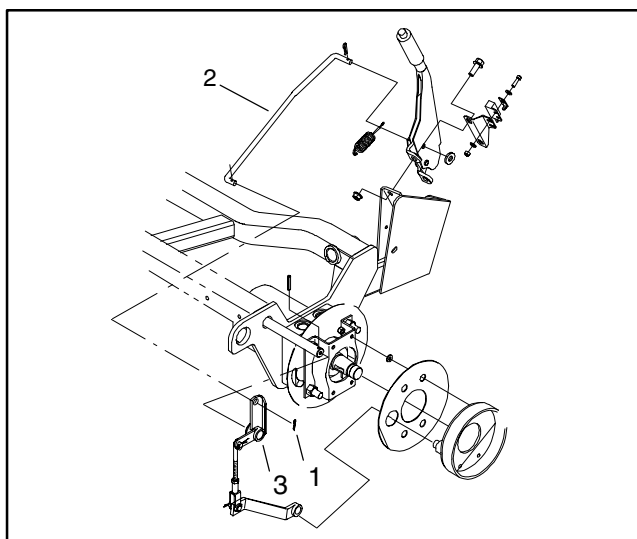

Figure 11
5. Remove cotter pin from brake rod. Disconnect brake rod from brake lever (Fig. 11).